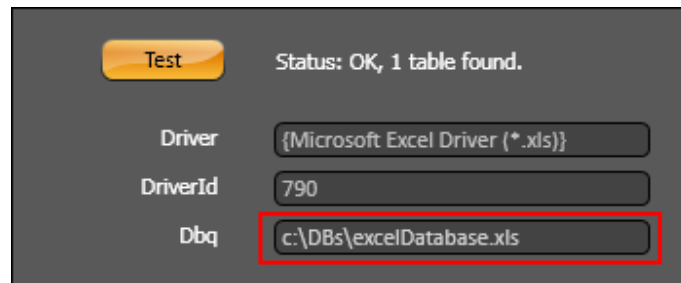

Figure 6-23. Connection with Database Test
5. The Connectionstring is the place to configure the connection and test with the database. Figure 6-23 illustrates the procedure